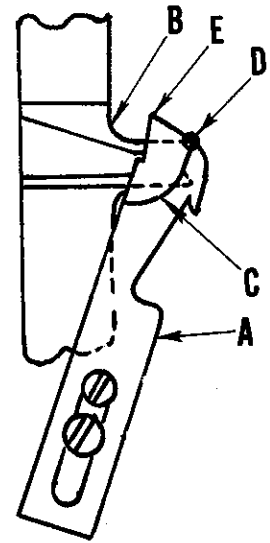
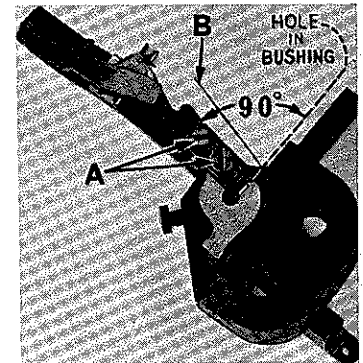
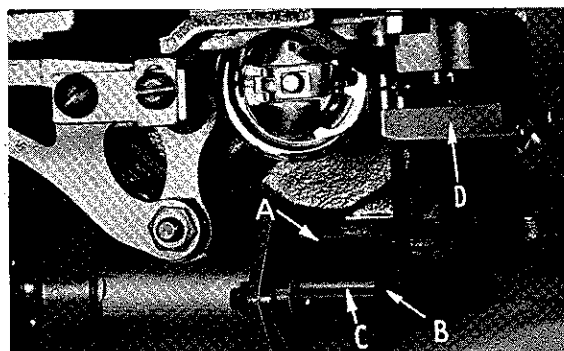
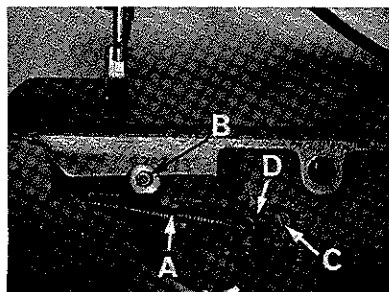

Fig. 30
Fig. 31
Fig. 32
Fig. 33
2. Position upper knife (D) parallel with the left side of the arm of the positioning finger. Check to see that the lower knife is parallel with the upper knife. If this is not so, loosen the finger set screw (D) and turn the eccentric bushing (F) until the knives are parallel. A good starting point would be to have the pin hole in the eccentric bushing (F) located approx. 90° to the right side of the arm of the positioning finger (Fig. 31).
Adjusting the lower knife to the front or rear, as well as resetting the stop to vary the left to right position is necessary to sever the needle thread when the stitch length is changed. See point D, Fig. 30.
The lower knife (A, Fig. 30) in its extreme left position should not extend beyond the left side of the arm of the positioning finger (B). As the lower knife moves to the right, the run out of the cutting edge (C) must coincide at a point of the positioning finger as indicated at point (D). To make these adjustments loosen screws (A, Fig. 31) and position knife.
4. Locate the cutting solenoid bracket (A, Fig. 32) as far forward as possible and parallel with the line of feed. With the cutting solenoid lever (B) contacting the cutting solenoid plunger (C), adjust pivot release lever (D), so that there is a 1/32 inch clearance to be maintained when knife return spring (A, Fig. 33) is in position.
5. Adjust the lower knife stop screw (B, Fig. 33) so when the lower knife is in its extreme right hand position, the left corner (E, Fig. 30) is in line with the left side of the needle slot in the bobbin case holder.
6. Be sure the spring retainer wire (B, Fig. 31) contacts the bobbin case holder when the lower knife is in its extreme right hand position. If the spring wire does not make contact, bend retainer wire to suit.
7. Knife return spring (A, Fig. 33) to have proper tension to cut threads. To adjust tension of knife return spring loosen screw (C) and move tension spring bracket (D) to the right to increase tension or to the left to decrease the tension.